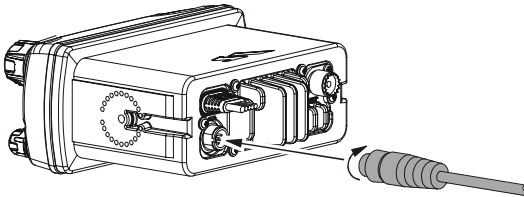

Figure 3
1. Connect the Routing Cable to the Remote Mic eight pin connector on the rear panel, then tighten the Cable Nut (See Figure 3).